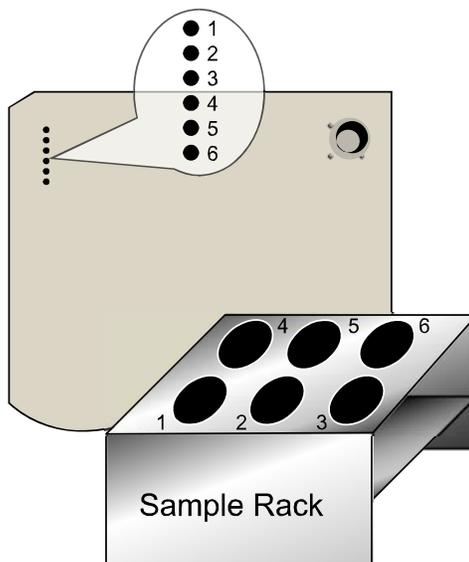

Figure 64. AutoTrace Workstation Right Side and Sample Rack
- 10 Place a sample container in each rack position to be used and insert the sample line with tubing weight into the appropriate container. Each sample line and each rack position is numbered to correspond to the numbered positions on the right side of the AutoTrace Workstation, as shown in Figure 64.